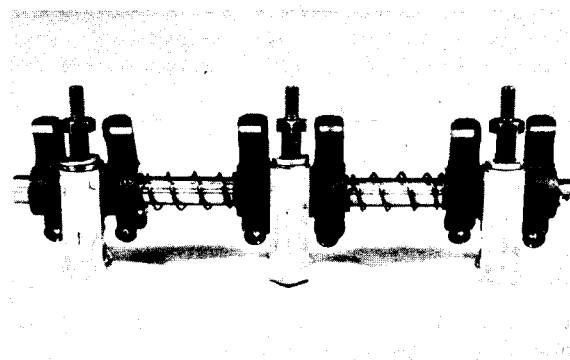

Figure 70a
8. Loosen the rocker stay attaching bolts. Remove the rocker assembly (Fig. 70a).